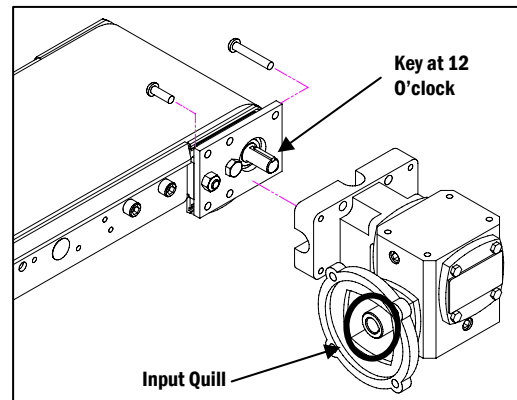

Figure 4
④ Install the Drive Package
- a. Rotate the Drive Pulley by moving the belt by hand so the Key in the conveyor's shaft is in the 12 o'clock position (**Figure 4**).